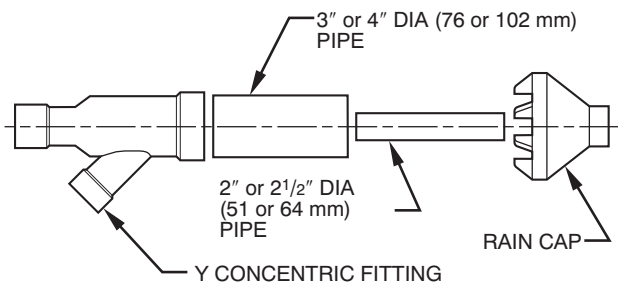

Fig. 1 - Kit Components
- b. Cement Y concentric fitting to larger diameter kit pipe. (See Fig. 1.)
- c. Cement rain cap to smaller diameter kit pipe. (See Fig. 1.)